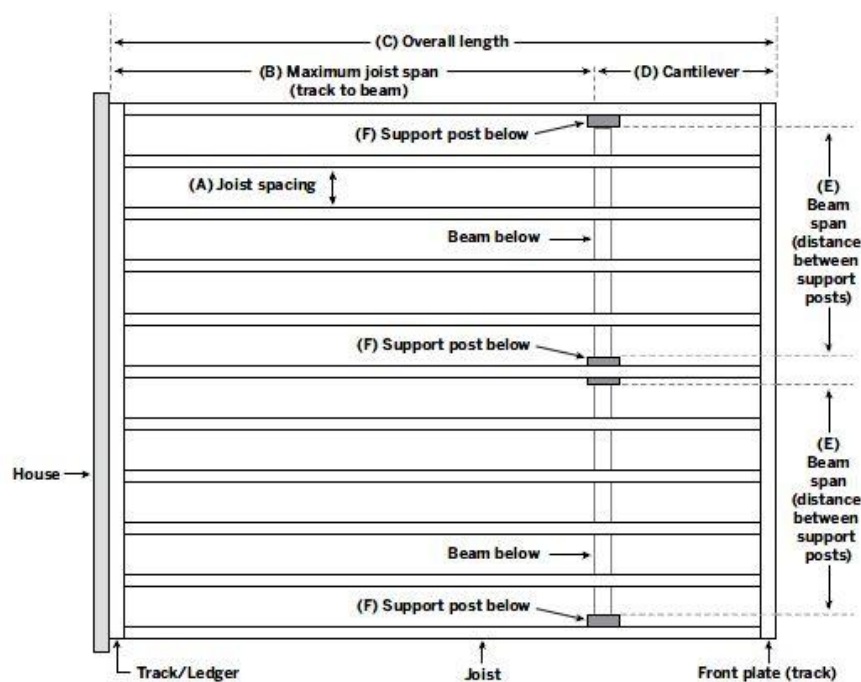

FIGURE 1 – SINGLE BEAM PLAN
**4.1** Allowable maximum spans for 1-5/8-inch joists, single box beams and double box beams are given in Tables 1 thru 6 with respect to joist spacing of 12 or 16 inches. See Figures 1 and 2 for definition of joist span, cantilever length and box beam span.